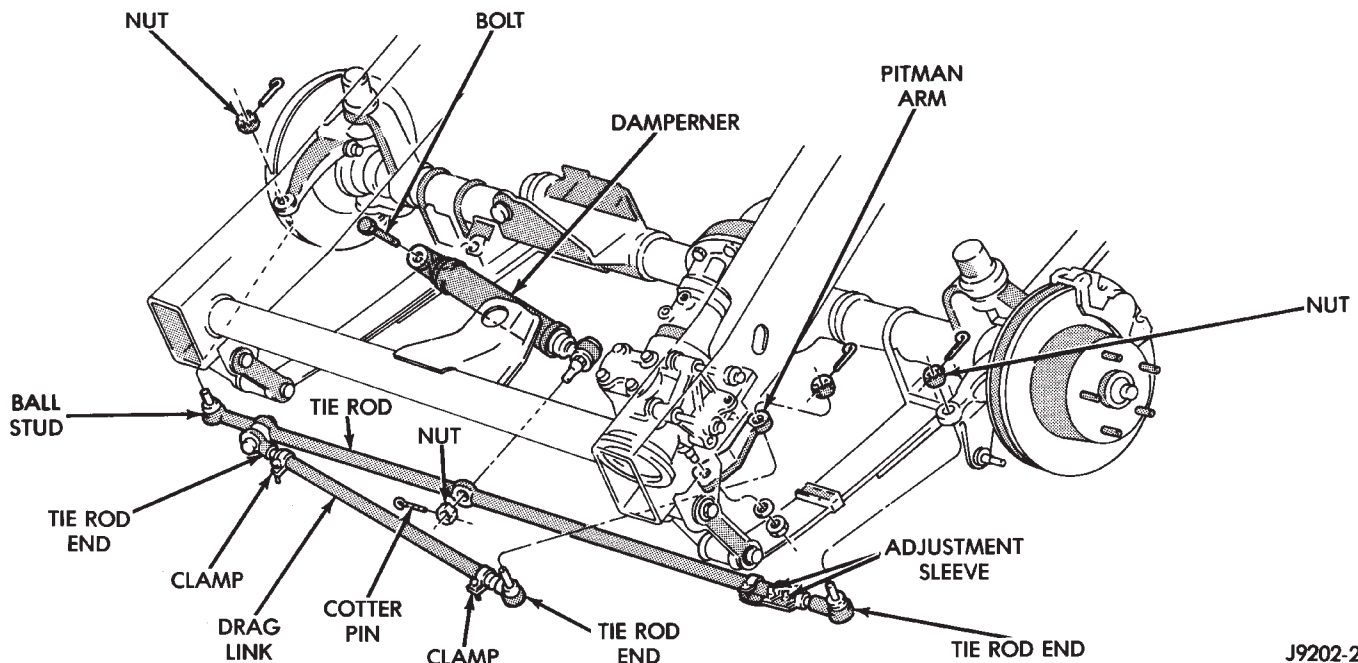
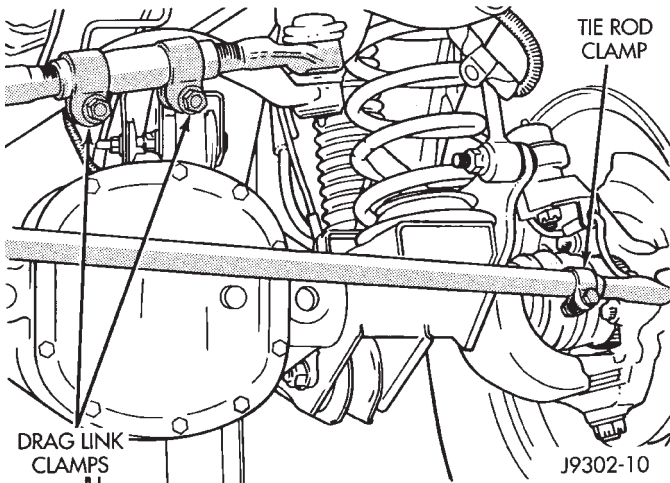

Fig. 2 Steering Linkage
Fig. 3 Tie Rod/Drag Link Clamp Bolt
(1) Remove the cotter pins and nuts at the steering knuckles and drag link (Fig. 2). Remove the steering damper from the tie rod.
(2) Loosen the ball studs with a puller tool to remove the tie rod.
(1) If necessary, install the tie rod end in the tube (Fig. 2). Position the tie rod clamp as shown (Fig. 3). Tighten the ball-stud end clamp bolts to 49 N·m (36 ft. lbs.) torque.
(1) Remove the cotter pins and nuts at the tie rod and pitman arm (Fig. 2).
(2) Remove the drag link from the tie rod and pitman arm with a puller tool.
(3) If necessary, loosen the end clamp bolts and remove the tie rod ends from the tube.
(1) Install the drag link adjustment sleeve and tie rod ends. Position clamp bolts as shown (Fig. 3).
(2) Position the drag link at the steering linkage (Fig. 2).